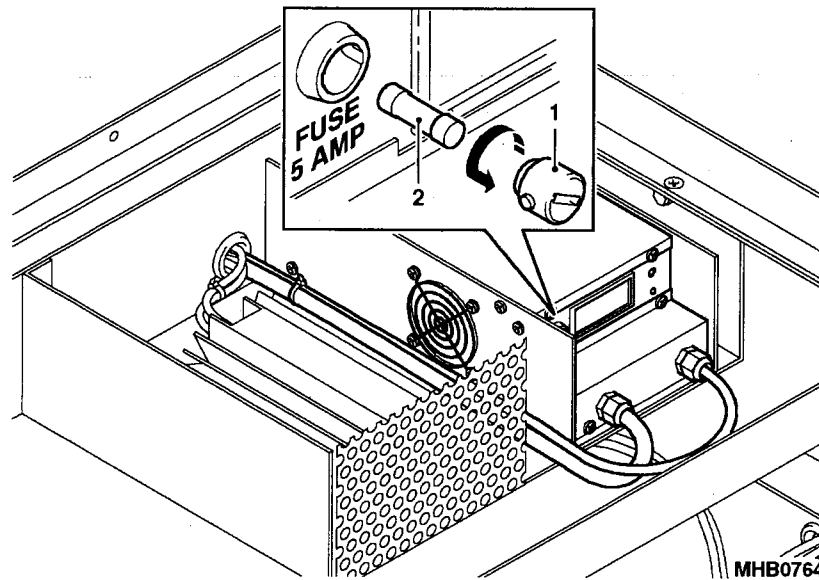

Fig 2 Charger fuse
- 3 To change the fuse accesses the charger (Fig 2) from underneath the desk.
- 3.1 Using a spade type screwdriver undo the capping (1) and remove the fuse (2).